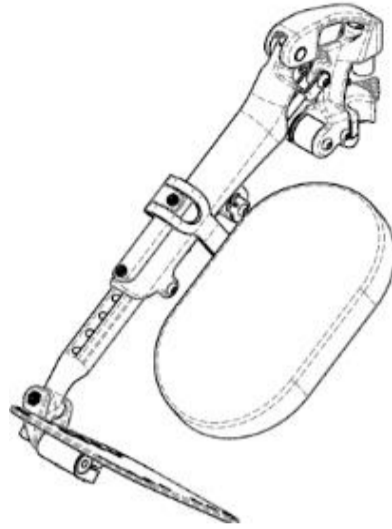

Figure 14.12: Elevating Legrest Footrest Height adjustment
1. Loosen and remove the ¼-20 x 1-3/4" Socket Button Head which holds the ELR's linear locking device, shown in Figure 14.12.